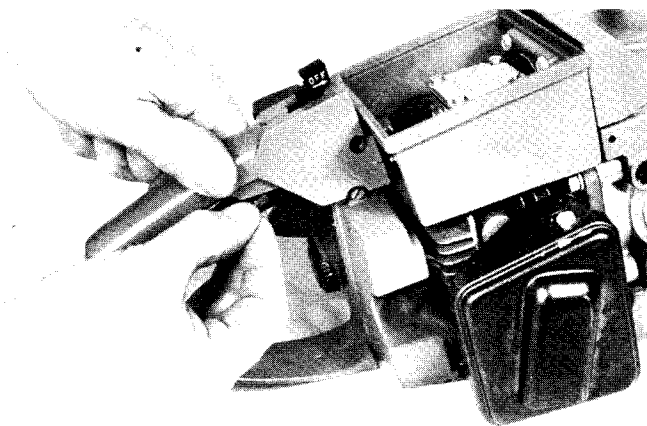

Fig. 48 — Installing Handle Cover
19. Install throttle control wire, throttle lever and handle cover, Figs. 48 and 49. Throttle control wire is connected to 3rd hole from top, in counter-clockwise direction on throttle shaft.